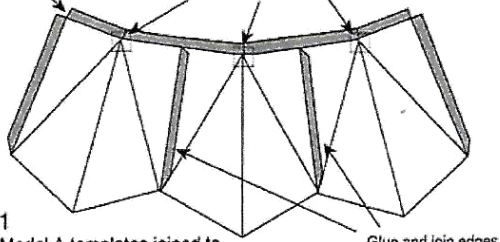
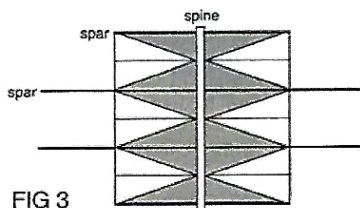

FIG 1
FIG 3
both sides of each so you can glue them together. Also leave an edge of about 10 mm at the top. These edges are the shaded parts in Figure 1. The top edge is for connecting to the other half and the end parts are for hiding the leading and trailing edge sticks.
4. In order to locate the starting points on the Tyvek for the lines going from the center to the edge, push a needle through the three points indicated in Figure 1 to make a mark in the Tyvek.
10. Figure 3 shows the position of the spine and the spars on the back of the kite. The two halves will be joined by gluing the edges pointed out in Figure 1. Place the spine on this joining area. The gray areas in the drawings are flat and the white areas form the air stream channels. Put the spine on the back of the kite, leaving 10 mm extending on each end. On the spine, mark accurately the position of the four spars.